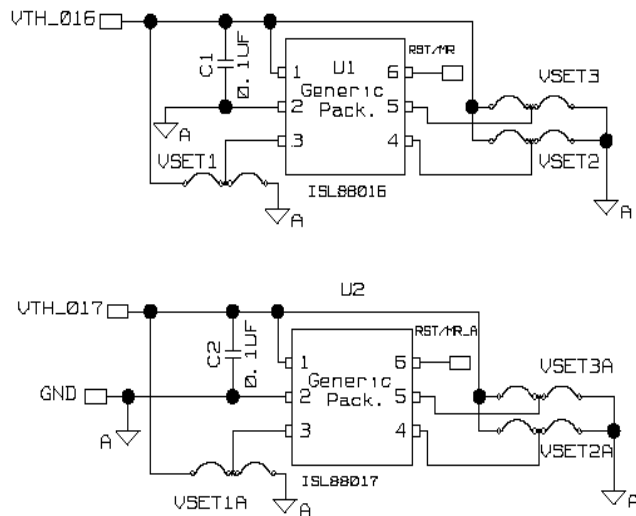
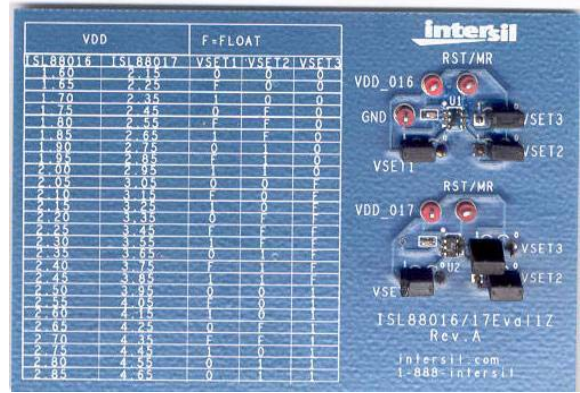

FIGURE 4. ISL88016/17EVAL1Z SCHEMATIC
FIGURE 5. ISL88016/17EVAL1Z PHOTOGRAPH
The ISL88016/17EVAL1Z platform is provided with both an ISL88016 in the top and an ISL88017 in the bottom positions. Each IC is default programmed to VSET1, VSET2 and VSET3 = FLOAT but provided with jumpers to change the  $V_{th}$  level by individually connecting the three VSET pins to either  $V_{DD}$  (1) or GND (0). To the left of the circuits is a VSET programming table for easy reference. Provide adequate bias to  $V_{DD}$  to deassert RESET signal. See Figure 4 for the ISL88016/17EVAL1Z schematic and Figure 5 for its photograph.